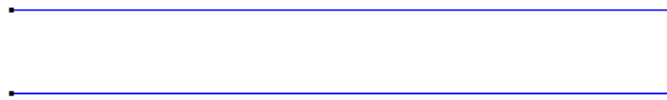

Figure 2
- 6 . Again, choose **Line**. Draw a line between points (0, 25) and (200, 25). The result is shown in Figure 2.